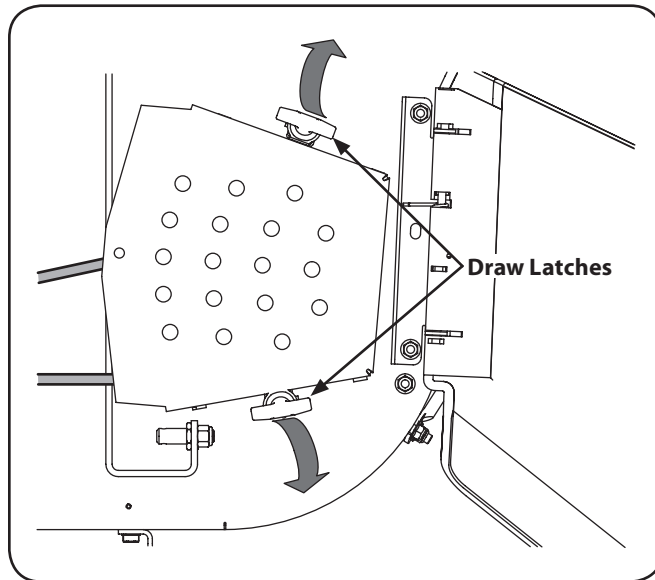

Figure 7-6
- Pull the four draw latches up and away from the deck covers to unlatch and remove both covers. See Fig. 7-6.